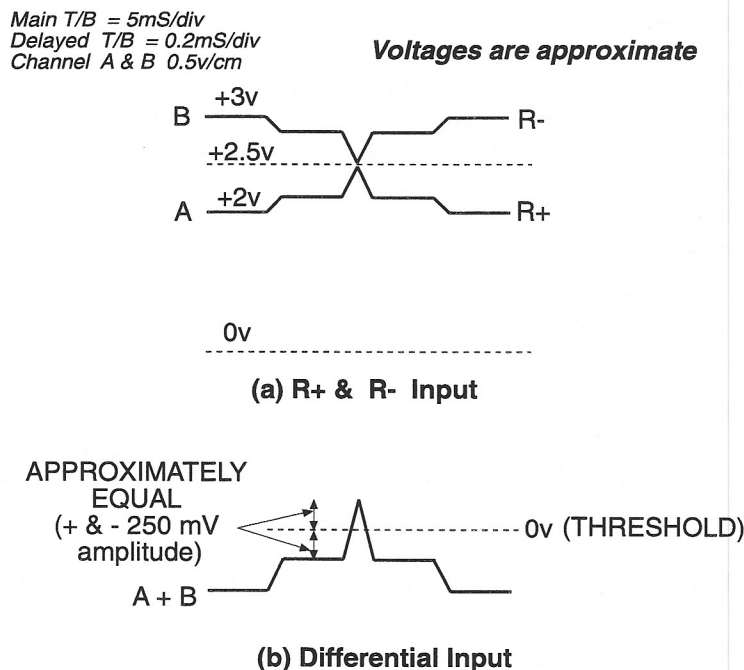

Fig 5.19: Heidenhain Optical Encoder Signals
- (b) Monitor the differential input on the Encoder PCB by connecting the oscilloscope to access resistor R6 (**R+**, **R-**). *Fig 5.19(a)*.
- (d) Redisplay the signals as **A+B**, *fig 5.19(b)*, and note the mark area above the shoulder. It should be approximately centred vertically around the threshold level.